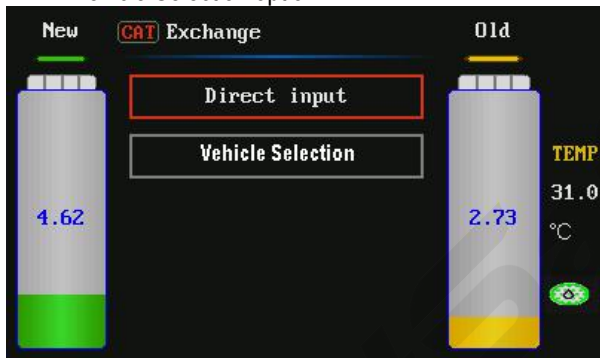

Fig.14
- 3) ATF exchange: as shown in Fig.14, you can directly input the fluid amount to be changed, as well as you can obtain the amount by selecting Vehicle Selection option.
Print is completed, the system will return to the interface as shown in Fig.14.